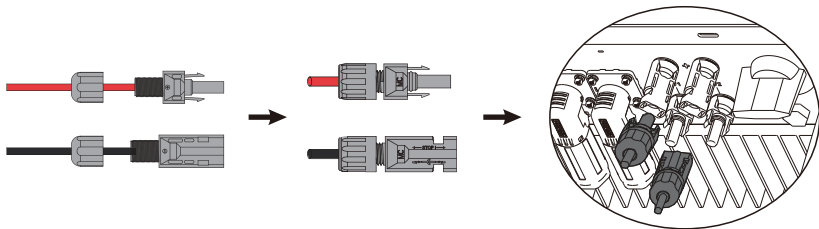

Figure 4.1-3 The PV plug is connected to the inverter
**Step 3.** Screw the cap on and plug it onto inverter side. There will be a click sound if connectors are inserted correctly into PV plugs. See Figure 4.1-3.